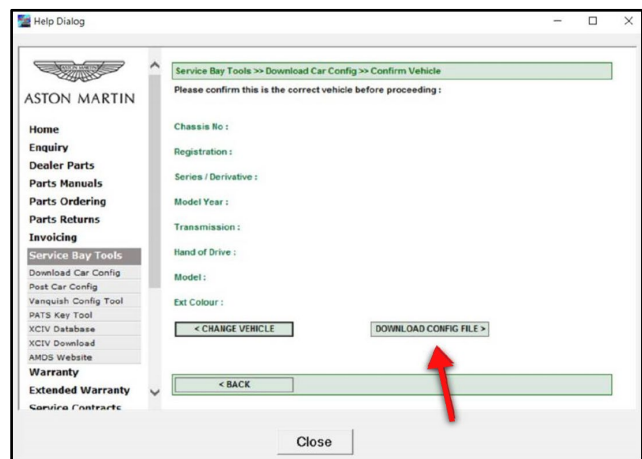

Figure 5
10. Click "DOWNLOAD CONFIG FILE" (refer to Figure 5).